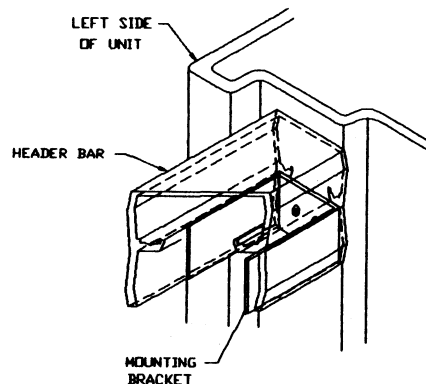

FIGURE 1
- 1) Refer to Table 1 to find the DIM. A which corresponds to the door you are installing. Measure up from the lower edge of the door opening to find the height of the hole locations. **SEE FIGURE 1.**
- 2) Mark the hole locations $3\frac{3}{8}$ " and 4" from the face of the unit. **SEE FIGURE 1.** (Note * on MS 348)